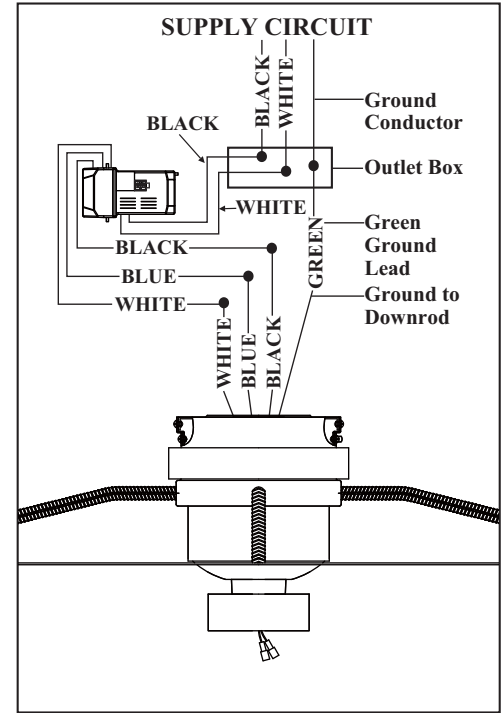

Figure 8
1. (Figure 8) Motor to receiver electrical connections: Connect the black wire from the fan to black wire marked "TO MOTOR L". Connect the white wire from the fan to the white wire marked "TO MOTOR N" from the receiver. Connect the blue wire from the fan to the blue wire marked "For Light" from the receiver. Secure the wire connections with the plastic wire connecting nuts provided.
2. (Figure 8) Receiver to house supply wires electrical connections: Connect the black (hot) wire from the ceiling to the black wire marked "AC in L" from the receiver. Connect the white (neutral) wire from the ceiling to the white wire marked "AC in N" from the receiver. Secure the wire connections with the plastic wire connecting nuts provided.
3. (Figure 8) If your outlet box has a ground wire (green or bare copper) connect it to the fan ground wires; otherwise connect the hanging bracket ground wire to the mounting bracket. Secure the wire connection with a plastic nut provided. After connecting the wires spread them apart so that the green and white wires are on one side of the outlet box and black and blue wires are on the other side. Carefully tuck the wire connections up into the outlet box.